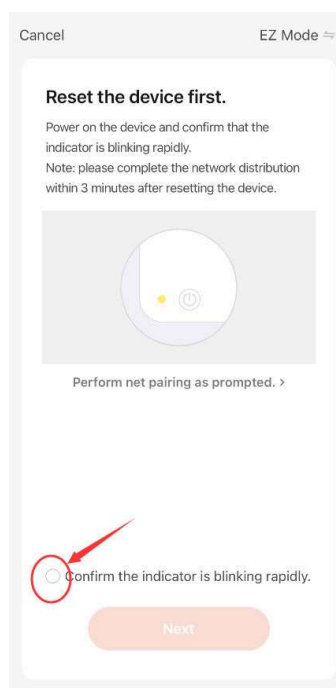

FIG.5
3. Press  (flame button) on the touch panel of the fireplace for more than 5 seconds when the fireplace is in standby mode. There will be 2 beeps come out from the fireplace and the  (flame button) will flash as well indicating that Wi-fi is in EZ mode. Then please confirm to go next. (FIG.5)